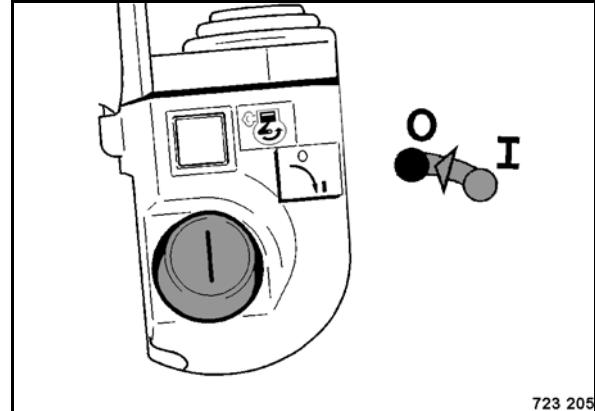

Fig. 58
- Turn the ignition switch to position "0" (Fig. 58) and pull it off.